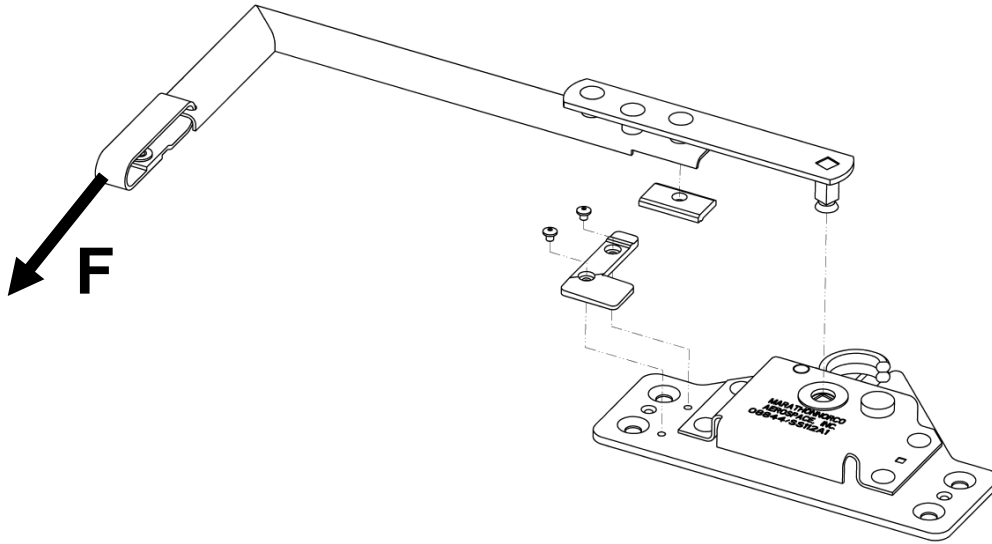

Figure 6: Exploded View of the Updated Assembly
- l. Reference Figure 6 for exploded view of installation.